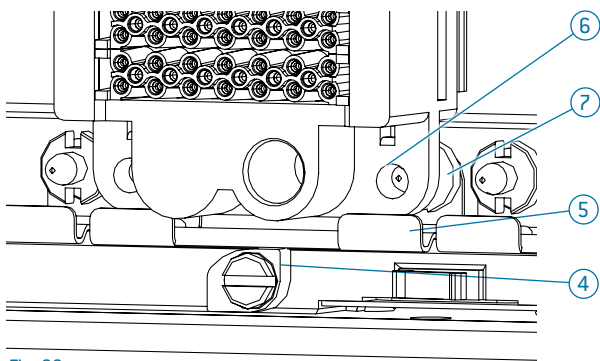
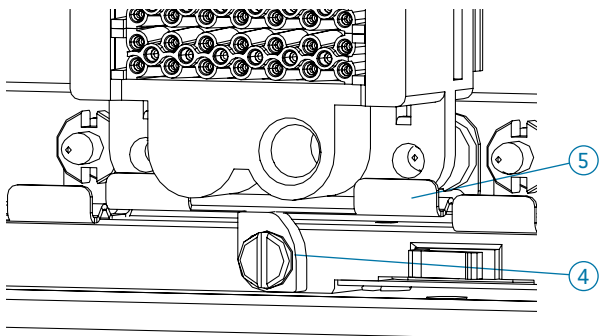

Fig. 68
Fig. 69
- ▶ To insert a connector, undo the top and bottom eccentric screws (4) at the relevant slot. Do this by turning the eccentric screw counterclockwise by 90° [Fig. 68].
- ▶ Make sure the edge with the two guide bushings (1) is at the top.
- ▶ Insert the connector (3) into the slot. Do this by fitting the holes in the frame (6) onto the centering pins (7).
- ▶ Turn the top and bottom eccentric screws clockwise by 90° to close them. The spring plate of the bracket (5) moves into the locking position when the eccentric screw (4) is turned. This fixes the connector into position at (4) and (5) [Fig. 69].